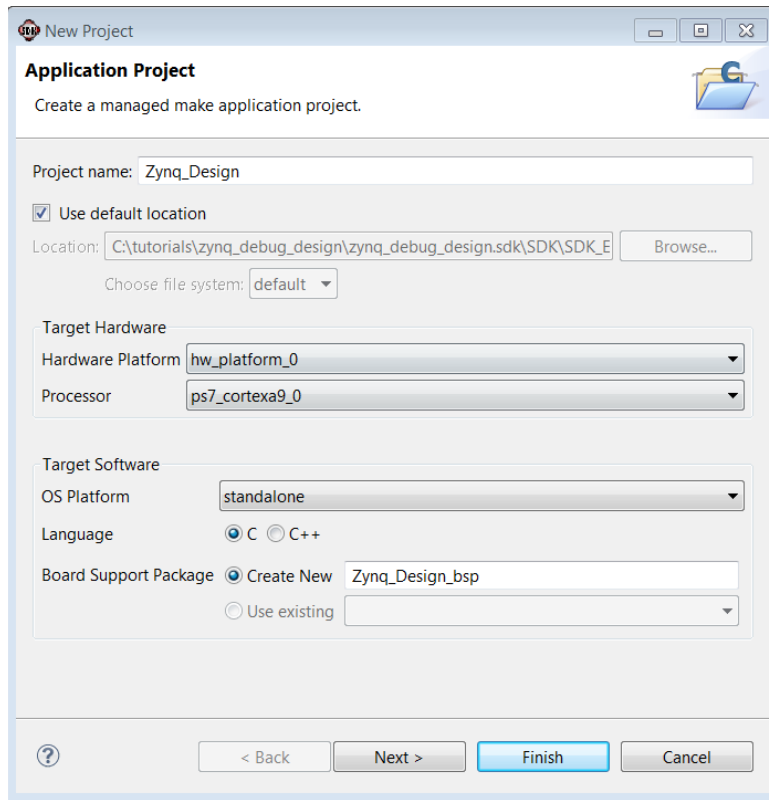

Figure 34: SDK Application Project
4. In the Project Name field, type **Zync_Design**, and click **Next** (FIGURE 34).
- From the Available Templates, select **Hello World** (FIGURE 34) and click **Finish**.